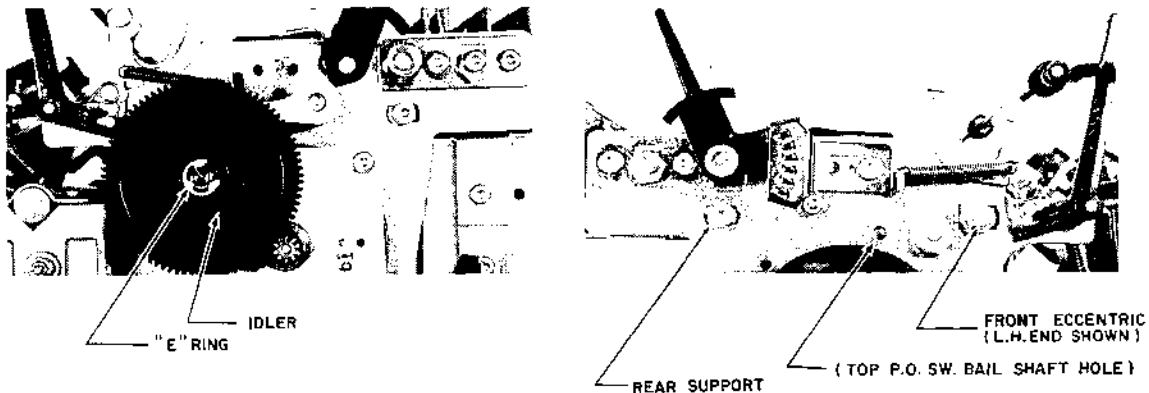

Figure 5-7 CARRIER SYSTEMS REMOVAL - B
models used the end of the assembly support screw). Store the springs, gear and the E ring in a safe place. Refer to Figure 5-7.
5. Remove the left- and right-hand front Carrier Subassembly height adjustment eccentrics using a 1/4" wrench or nut driver. Remove the left- and right-hand Carrier Subassembly support screws and shoulder spacers (earlier models use a shoulder screw), using a TORX T15 screwdriver. Store these items in a safe place. Refer to Figure 5-7.
c) Referring to Figure 5-7, remove the E ring and idler gear.